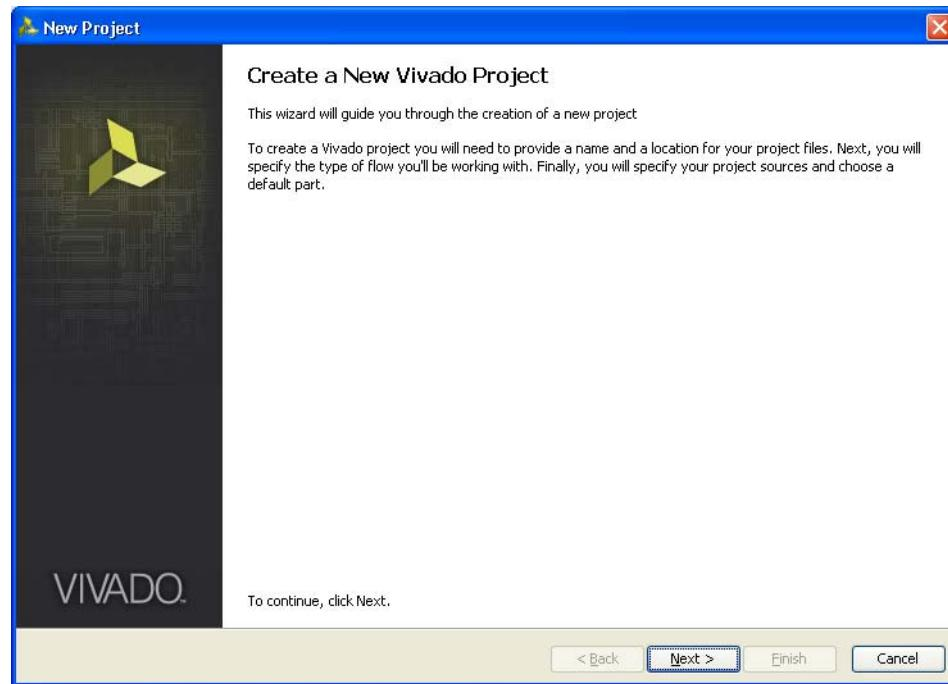

Figure 5-2: Create a New Vivado Tool Project
2. To create a new project, click the **Create New Project** option shown in Figure 5-1 to open the page as shown in Figure 5-2.